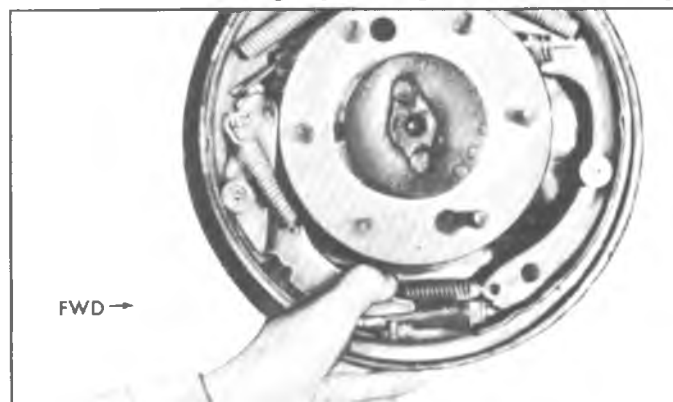

Fig. 50-Checking Actuating Lever
15. After completing installation, make certain the actuator lever functions easily by hand operating the self-adjusting feature (fig. 50).